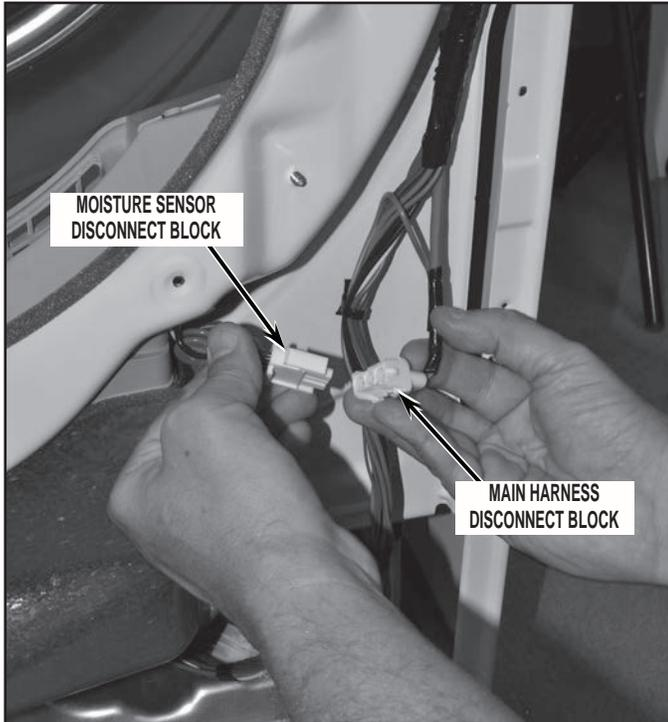

FIGURE 12
15. Disconnect moisture sensor disconnect block from main harness disconnect block located at lower right side of dryer. See *Figure 12*.